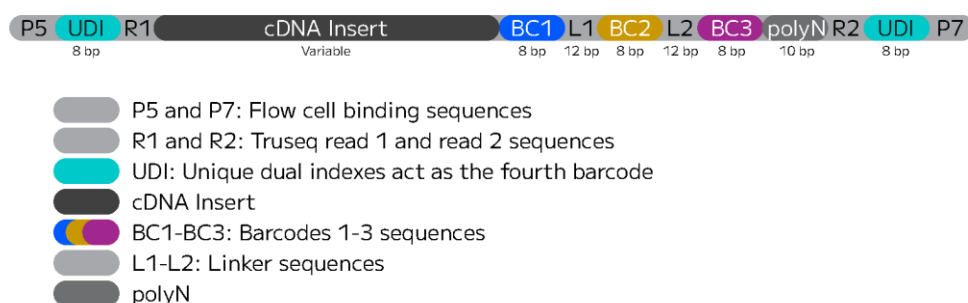

Figure 7: Whole transcriptome sequencing library structure.
2. Assess the size distribution of the purified DNA with a High Sensitivity DNA Kit on the Agilent Bioanalyzer System according to the manufacturer's instructions. See Figure 7 for the expected size distribution.
Figure 7: Expected Size Distribution before Illumina Sequencing. Example trace of Human DNA (top) and mouse DNA (bottom) from indexed sublibraries run on a TapeStation.